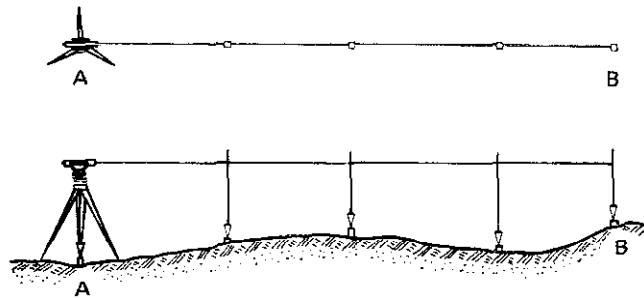

Fig. 5-35 Location of instrument for setting marks in a line
**Setting Marks in a Line (See figure 5-35.)**